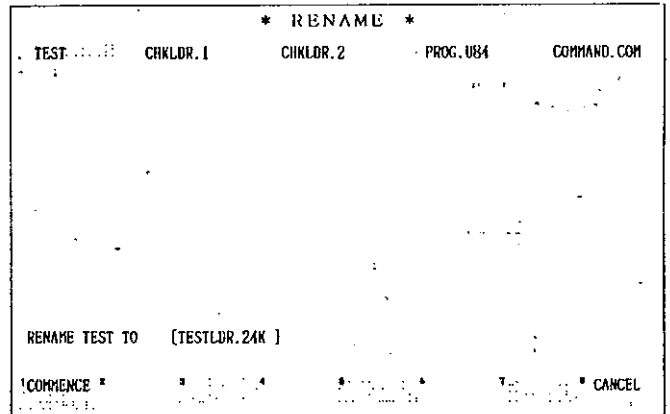

Fig. 5.21
1. Depressing **CANCEL** key (in the display of Fig. 5.21) calls up the display in Fig. 5.19.
(3) FILE COPYING